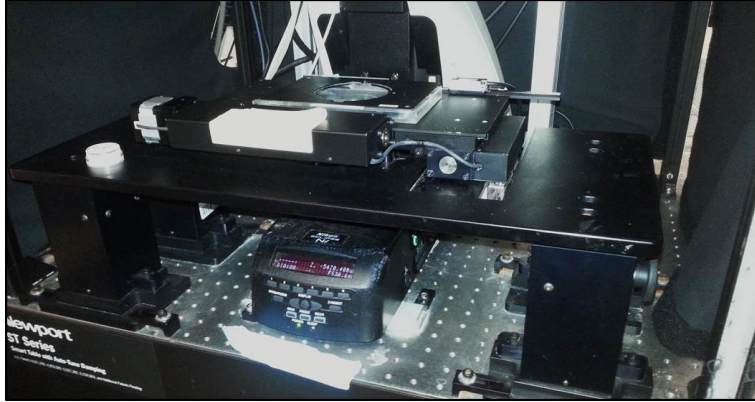

Figure 2: Stage Down on Startup.
2. Make sure the large stage is completely down (Figure 2).